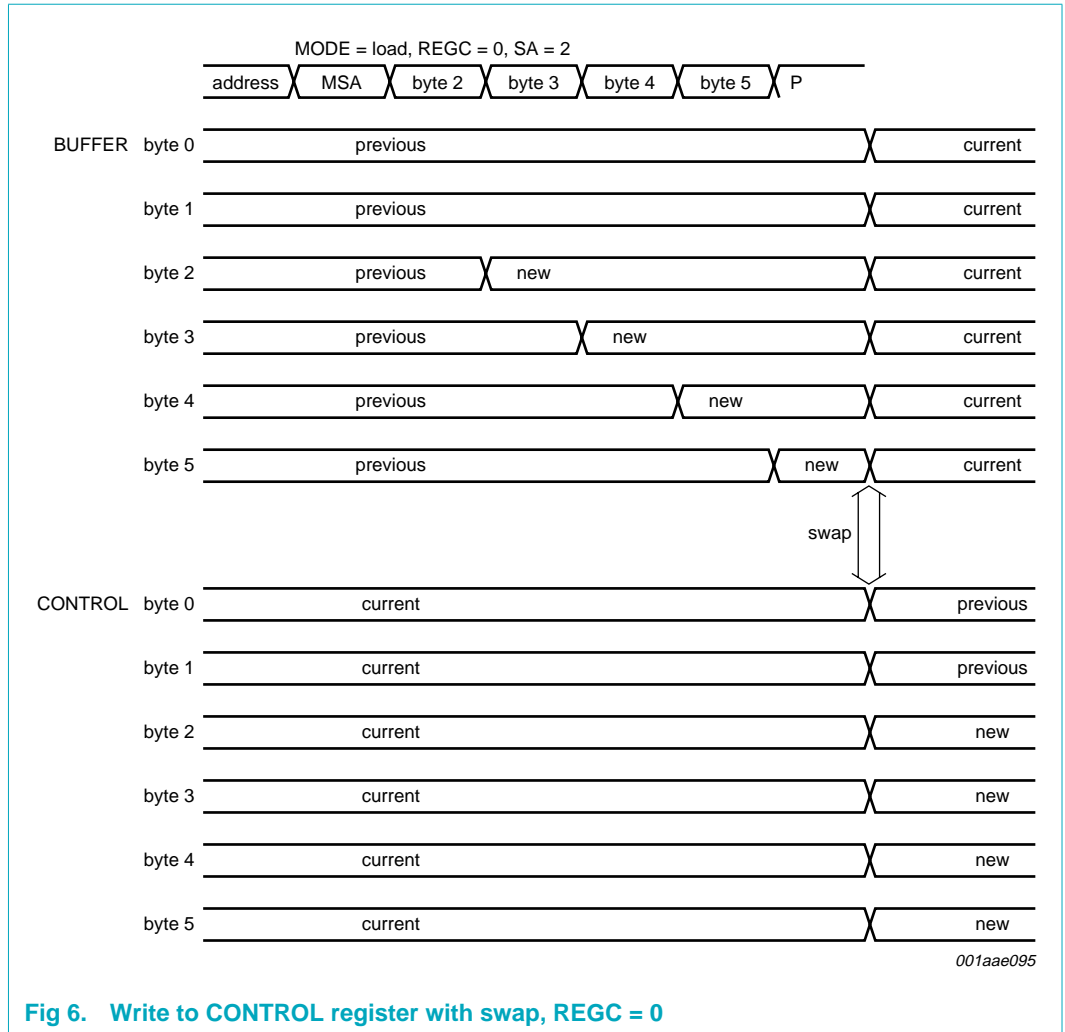
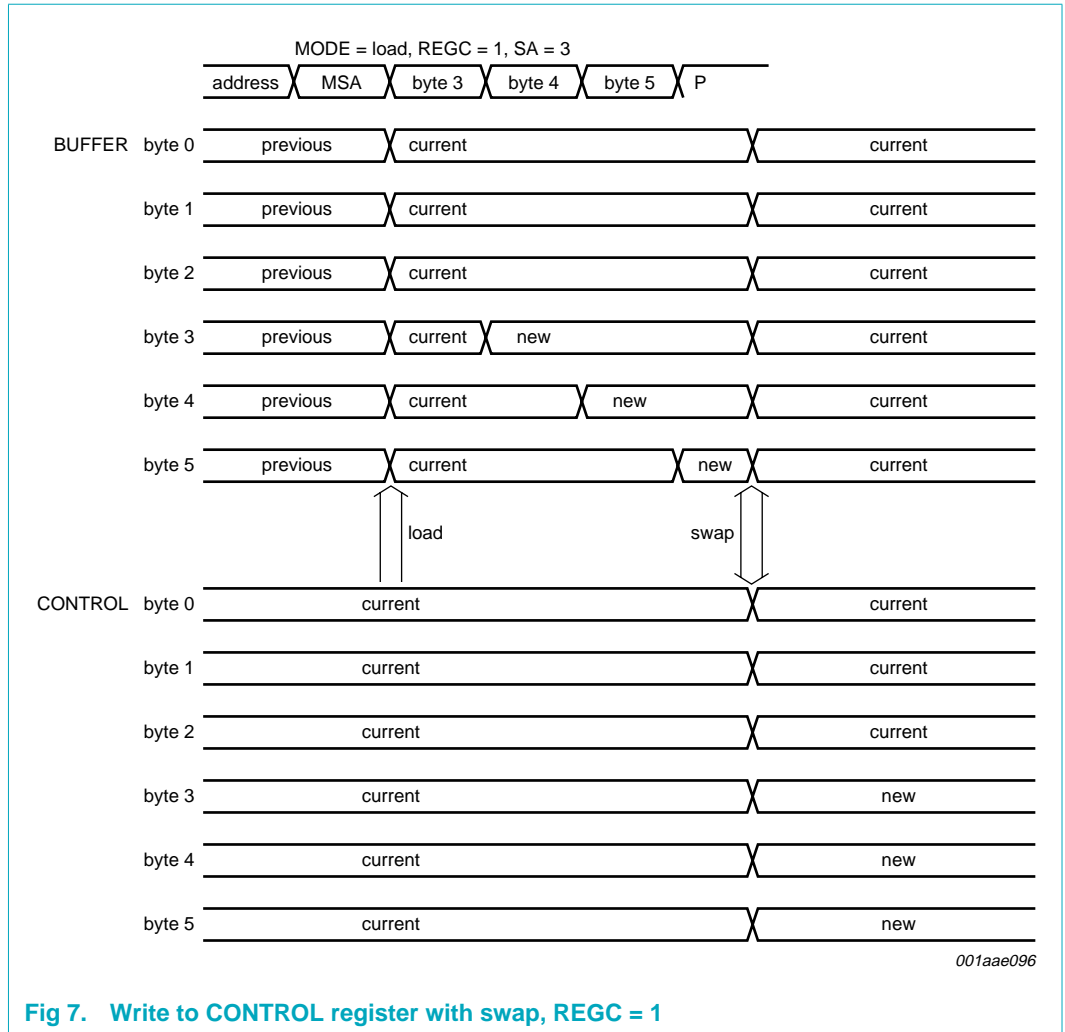

Fig 6. Write to CONTROL register with swap, REGC = 0
Fig 7. Write to CONTROL register with swap, REGC = 1
Controlled by a state machine, the BUFFER data will be loaded into the CONTROL register for new settings. However, at the same time the CONTROL data is loaded into the BUFFER register. This register swap action allows a fast return to the previous setting because the previous data remains available in the BUFFER register (see Figure 6 and Figure 7).
- With REGC = 0, any BUFFER data that is not newly written via I²C-bus remains unchanged. In general, the BUFFER register will contain the previous tuner setting, so this becomes default for the new setting. When only the MSA byte is transmitted defining a tuning MODE with REGC = 0, the tuner will return to its previous settings (see Figure 6).
- With REGC = 1, the BUFFER register is loaded with data from the CONTROL register first. This way, not written BUFFER data equals the CONTROL data. Since the CONTROL register contains the current tuner setting with REGC = 1, the current tuner setting is default for the new setting. When a tuning MODE action is defined with REGC = 1, the tuner will keep its current settings (CONTROL = current) for all data that is not newly written during the transmission (see Figure 7).